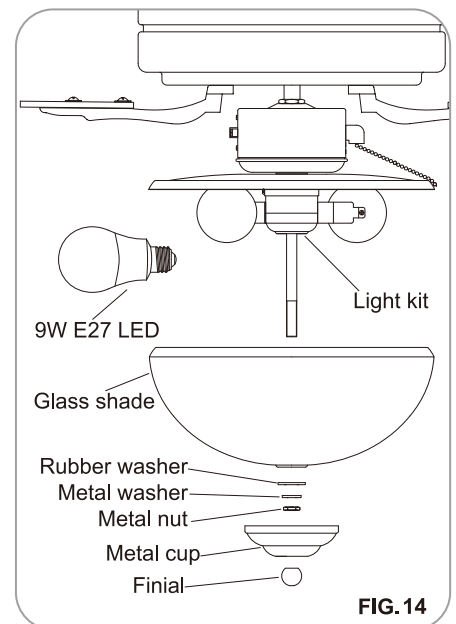

FIG. 14
Step 6: Remove the rubber washer, metal washer, metal nut, metal cap and finial from the light kit. Place glass shade over the light kit stem, secure with the rubber washer, metal washer, metal nut, metal cap and finial. Do not overtighten. (Fig.14)